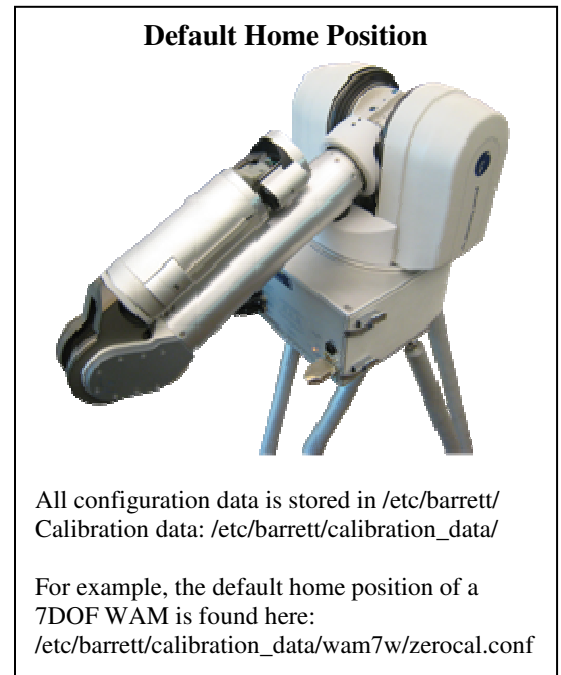

Figure 3
- Place the WAM into the home (folded) position (see Figure 3)